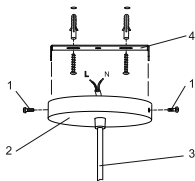

Figure 3
3.2.2 Connection of lamp socket with cord (figure 3):